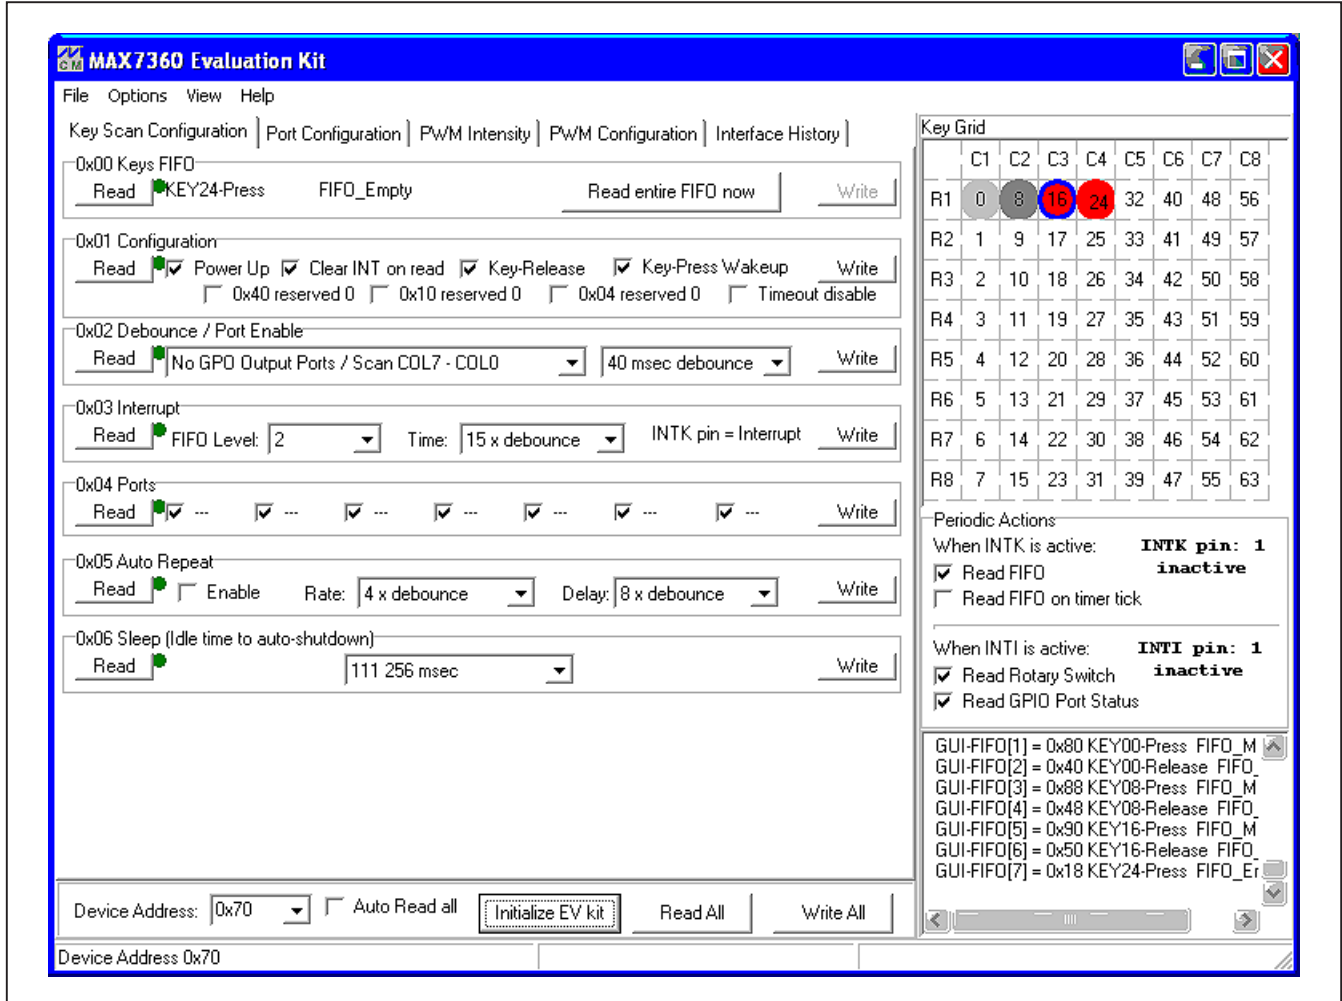

Figure 1. MAX7360 EV Kit Software Main Window (Keyscan Configuration Tab)
- 7) Start the MAX7360 EV kit software by opening its icon in the **Start | Programs** menu. The EV kit software main window appears, as shown in Figure 1.
The main window of the evaluation software (Figure 1) provides direct access to all registers and controls the interrupt response. The software automatically searches for the MAX7360 EV kit hardware when launched. Once the hardware is found and connected, the I²C **Device Address** is shown in the lower-left corner.
Each of the MAX7360 registers is represented on the software's main window (Figures 1–4). Each register has its own **Read** and **Write** buttons. Pressing the **Read entire FIFO now** button reads register 0x00 repeatedly until the FIFO indicates that all keypress events have been read.
To configure the $\overline{\text{INTK}}$ pin for use as a GPO pin, set both the **FIFO Level** and **Time** combo box of register **0x03 Interrupt** to **Not Used**, then press the **Write** button. When configured for GPO, the $\overline{\text{INTK}}$ pin is controlled from the **0x04 Ports** register (Figure 1).